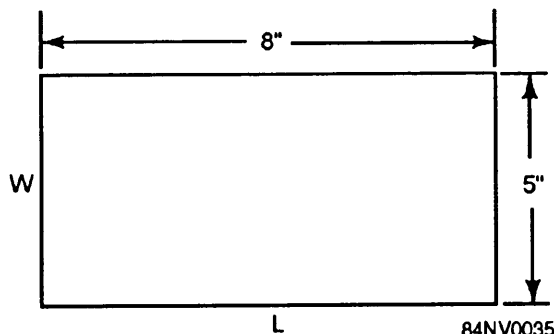

Figure 14-35.—Two-dimensional view.
To find the area (A) of the rectangle shown in figure 14-35, you must multiply the length (L) by the width (W) or $A = LW$. Since $L = 8$ inches and $W = 5$ inches, $A = 8 \times 5 = 40$ square inches.